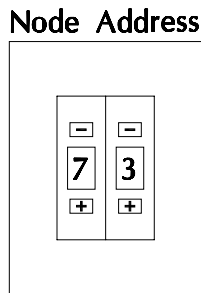

Figure 3 - V120 Node Address Switch
Figure 3 shows the node address switch set to a value of 73_{16} (115). Notice the most significant digit is on the left and the least is on the right.